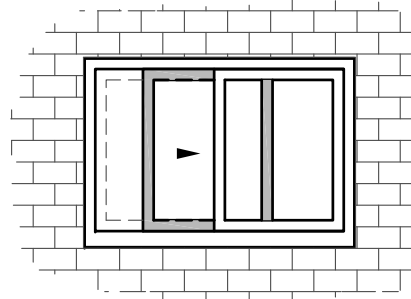

Figure 4
8. Insert balances into correct tracks (if applicable), insert sash and check window operation. (Figure 4)